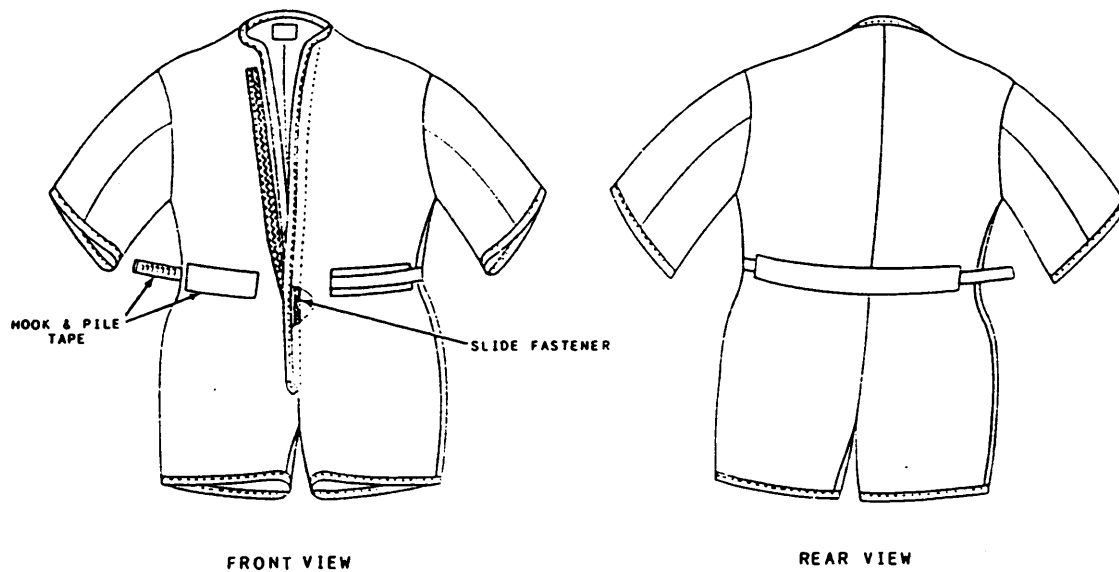

Figure 4-7.—CWU-72/P liner.
**CWU-72/P LINER.** The CWU-72/P liner (fig. 4-7) is a one-piece garment and is supplied in nine sizes. The liner is worn directly under the CWU-62/P coverall and over the recommended underclothing. The liner provides a layer of thermal protection, and is made of 100% olefin microfiber thermal insulation sandwiched between two layers of high-temperature resistant Aramid fabric.